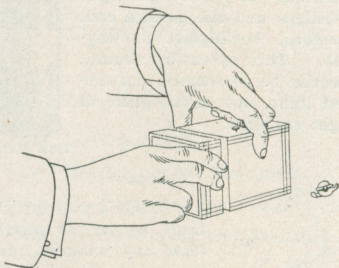

Fig. 2.
2. Now remove back from camera by pressing concealed springs on the sides and *at the same time* pulling it back as shown in Fig. 2.